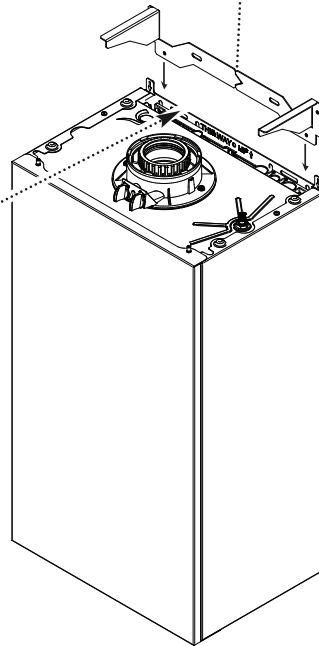

Fig. 4
3. Position the GasSaver two piece mounting bracket centrally above the boiler once it is installed (Fig. 4), ensuring the "V" shape locating feature is engaged.